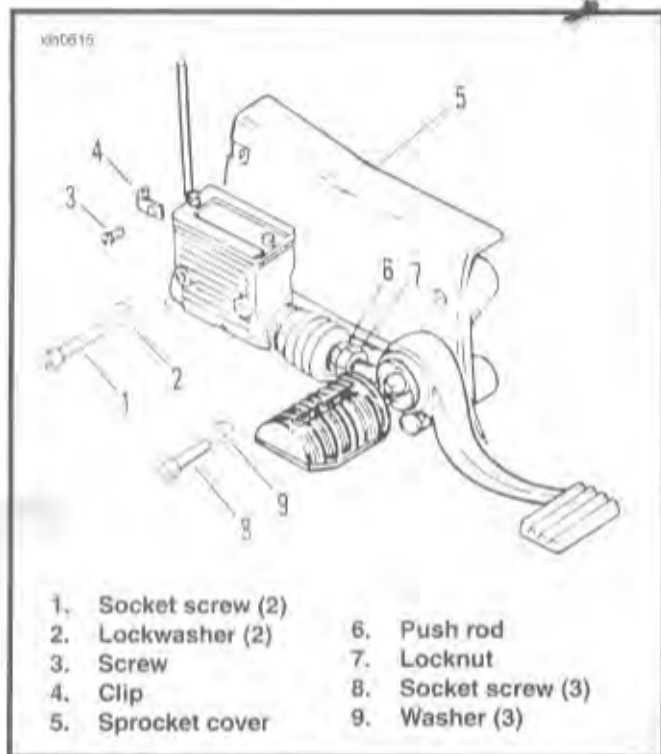

Figure 6-18. Sprocket Cover
2. See Figure 6-18. Remove footrest, brake pedal, sprocket cover (5), and rear brake master cylinder from right side of motorcycle.